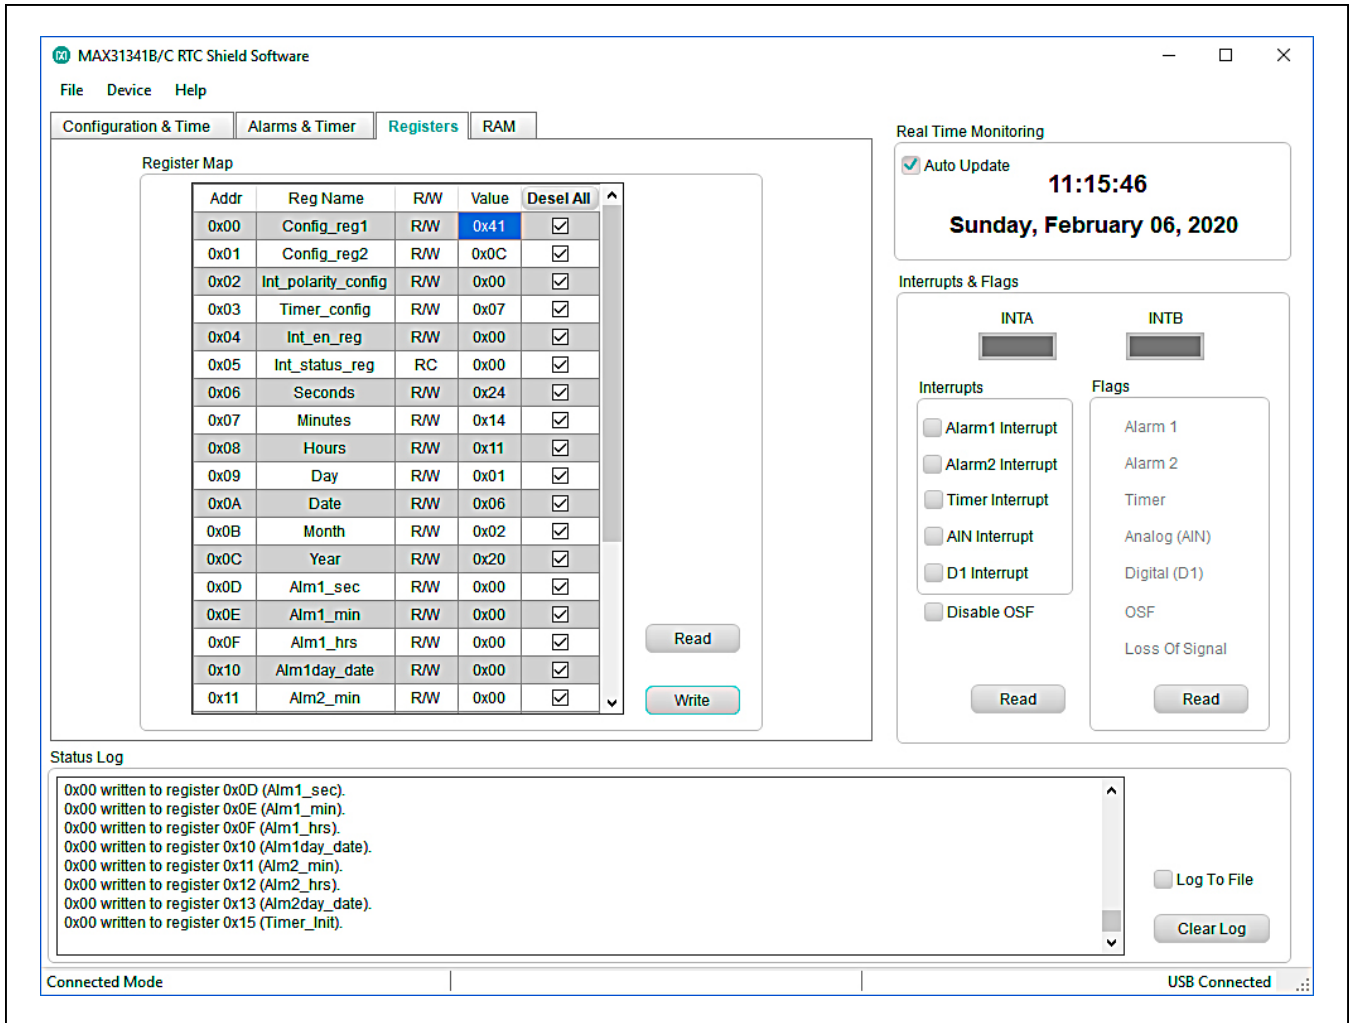

Figure 5. MAX31341B/C RTC Shield Software—Registers Tab
- On the **Registers** tab (Figure 5), in the **Register Map** section, press the **Read** button and make sure that the value of register 0 (Config\_reg1) shows 0x41. Otherwise, set it to 0x41 and press the **Write** button. Now the reading in the picometer is the current from the MAX31341B or MAX31341C only. It should be around 210nA.